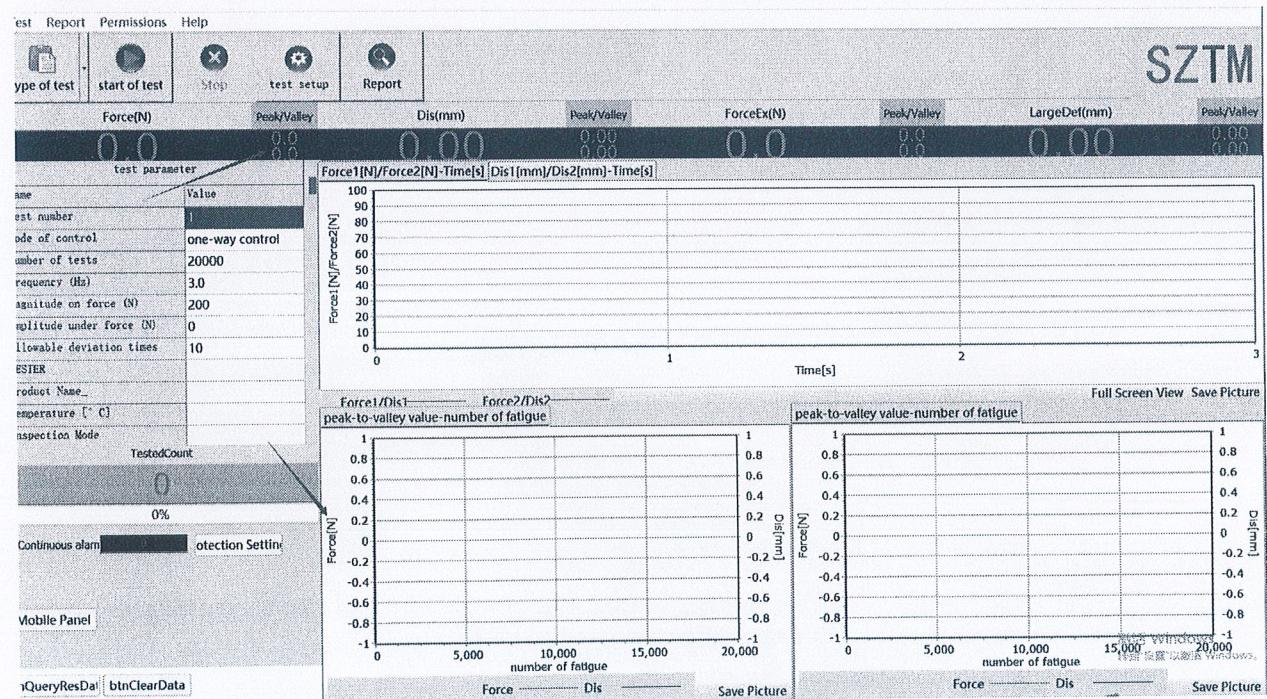

Figure9.1
- 1) (Figure 9.1) The red arrow 1 represents the real-time collected value, and if the decimal places need to be changed. You can double-click on the green number. After double clicking, the corresponding prompt box will pop up, and you can enter the number of digits you need to modify.
- 2) (Figure 9.1) The red arrow 2 represents real-time collection of the curve, and the curve will be automatically saved to the report after the experiment is completed .